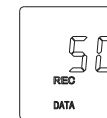

Fig.3
(1). To set the number of the times of data recording. The sign "REC" and sign "DATA" would both flicker in the LCD (Fig.3) and the number of recording times displays. Press **HOLD** and **MAX** to set the number from 1 to 50.